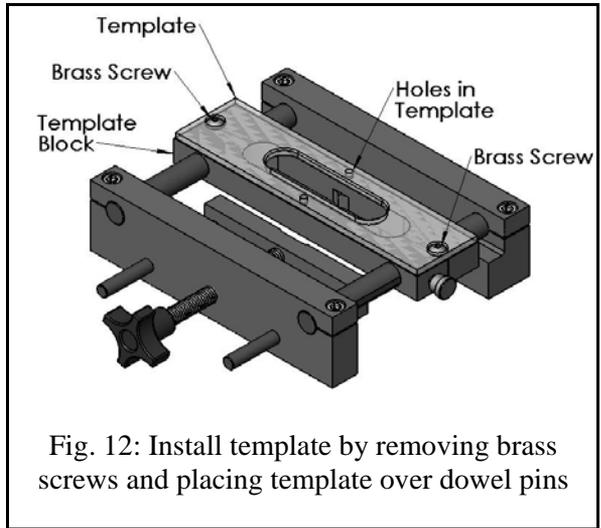

Fig. 12: Install template by removing brass screws and placing template over dowel pins
Step 2. Referring to Fig. 12, select a **template** and then install it by first removing the **brass screws**. Use the 3/32" hex key that was included with the jig. Place the template onto the **template block** so that the **holes** in the **template** mate with the